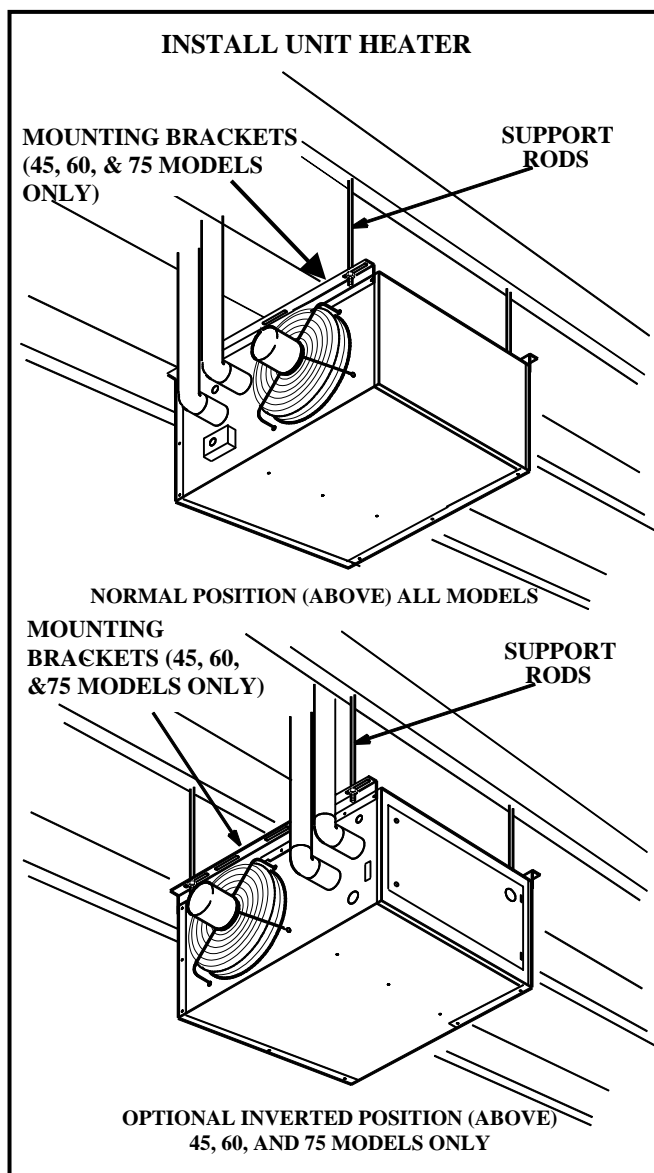

FIGURE 1
45, 60, and 75 size units may be installed in the normal position or inverted 180° as shown in figure 1 depending on desired location as governed by clearances, vent connection, air direction, gas supply, electrical supply and service accessibility.
- 6- To support unit, secure mounting bracket to ceiling joist or truss. Unit may also hang on rods as shown in figure 1.